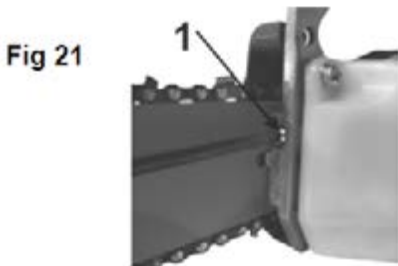

Fig 21
- Turn the adjuster screw 1 clockwise until the chain does not sag from the underside of the guide bar Fig 21.